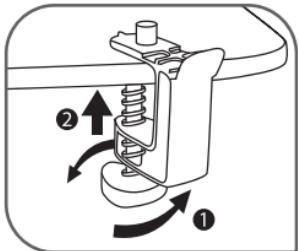

Fig.1
- Attach the EasyFix system onto the ironing board by turning the screw. It is normal that the small piece attached to the screw is mobile – fig.1.